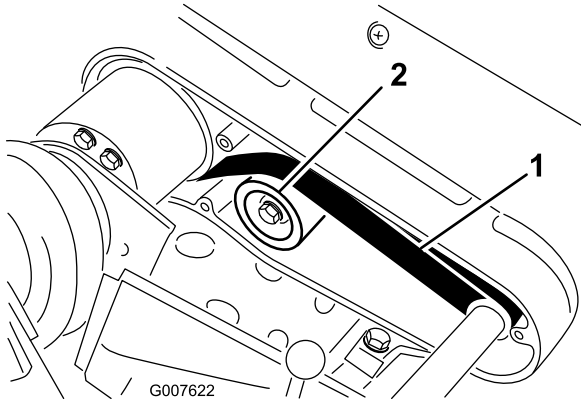

Figure 38
2. Check the tension by pressing the belt at mid span of the pulleys (Figure 38) with 22 to 26 N (5 to 6 lb) of force. The belt should deflect 6 mm (1/4 inch).
- A. Loosen the idler pulley mounting nut and pivot the idler pulley clockwise against the backside of the belt until the desired belt tension is attained (Figure 38).